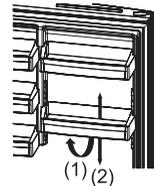

Fig 1
Lift up front of the shelf (1) and move up or down adjustable door shelf (2) with both hands(Fig 1)